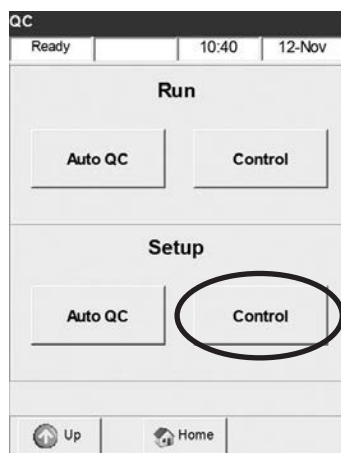

Fig. 4-9 Select Control
2. Select **<Control>** under **<SETUP>** (Fig. 4-9).